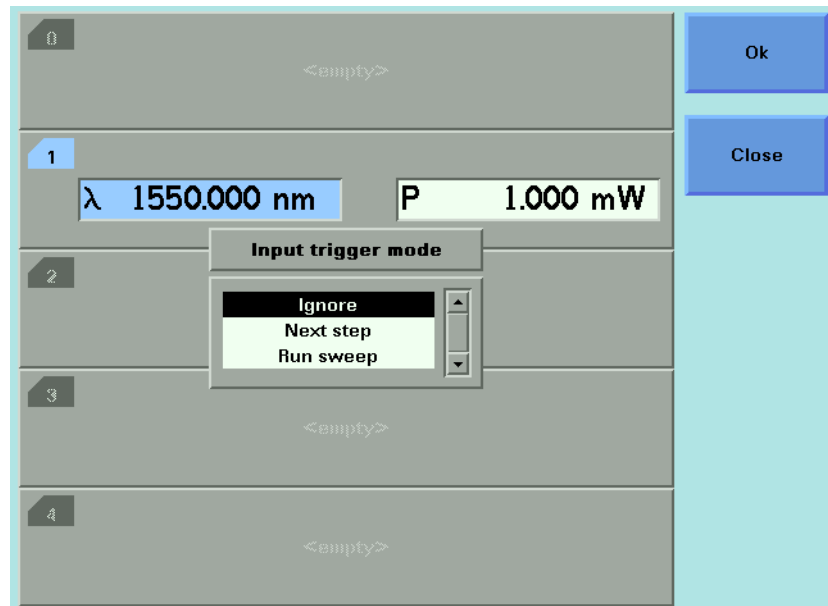

Figure 93 Input Trigger Mode
- 3 Move to <Input Trigger Mode>, by using the cursor key, and press ENTER. You will see the screen in Figure 93 on page -164.